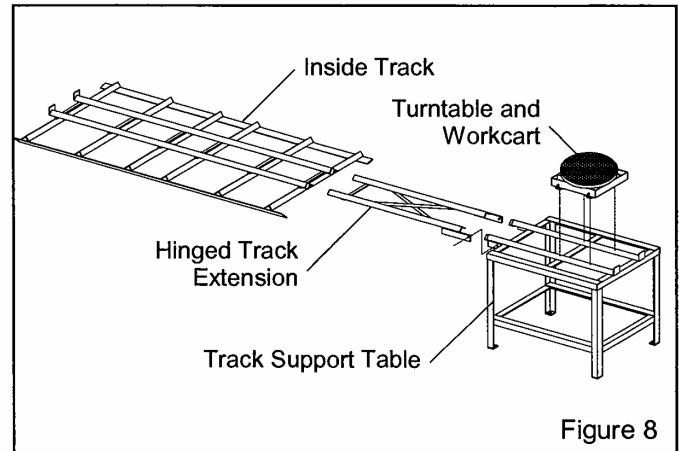

Figure 8
3.4.1 The components of the turntable and track are shown in Figure 8. The assembly consists of: